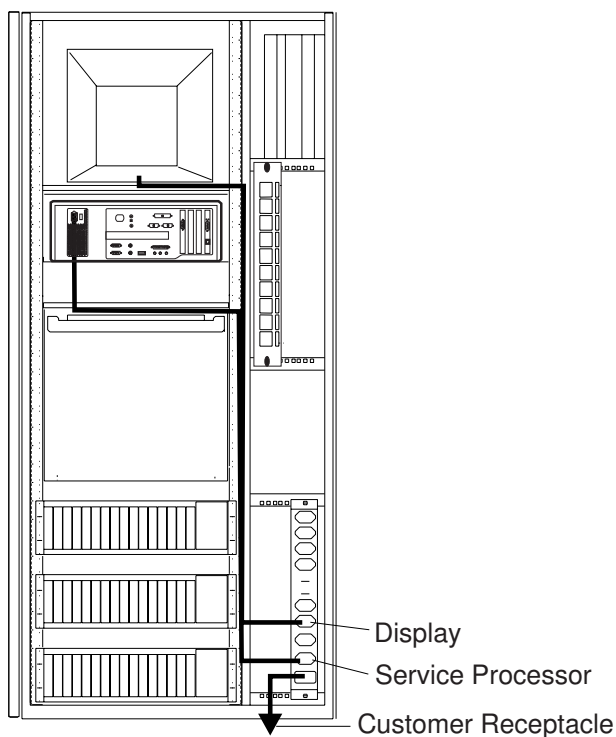

Figure 1-12. Power Cords Connection
19. Route and connect the power cords (PN 58G5783) from the display and service processor unit to the ac outlet distribution box as shown in Figure 1-12. Secure these cables using tie clamps along the frame, then go to step 21.